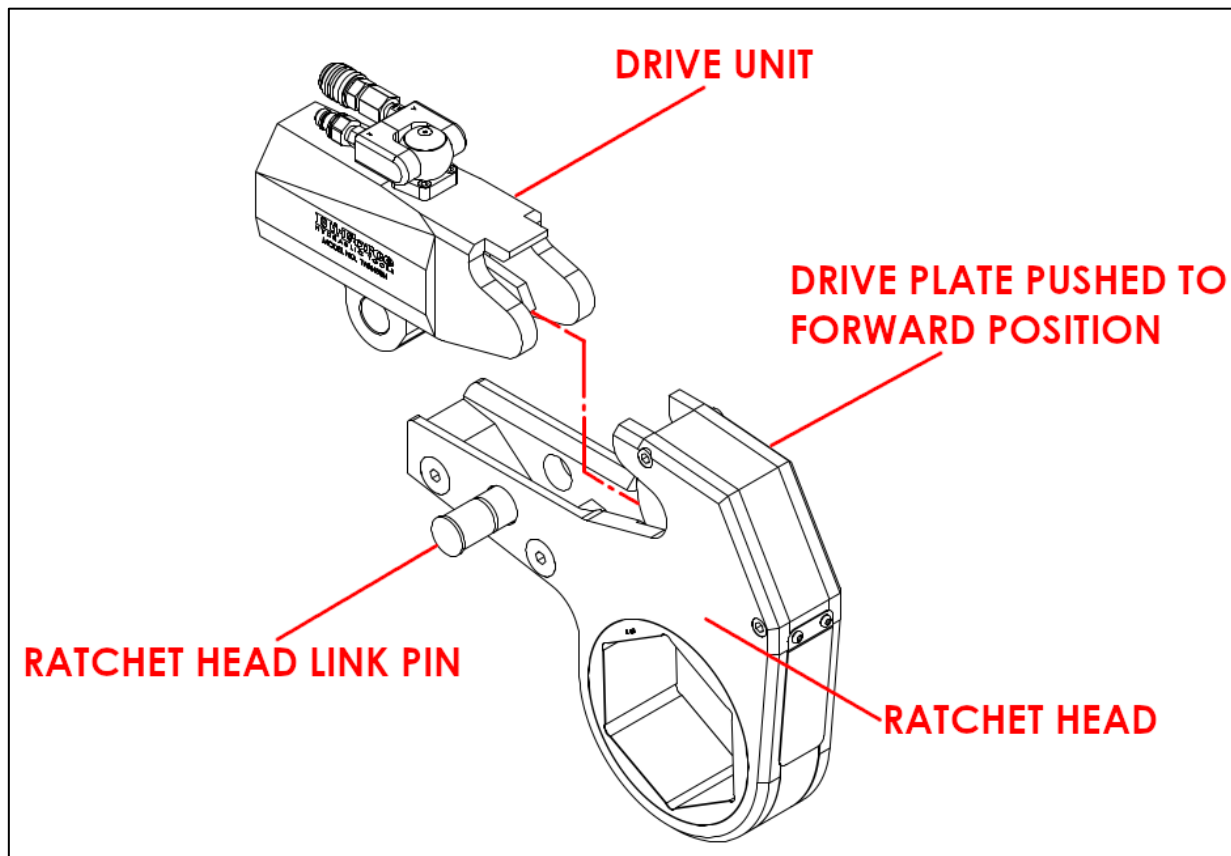

Figure 6.3: Attaching the Ratchet Head
- Mate the ratchet head with the drive unit as shown in figure 6.3.
1. Separate the drive unit from the ratchet head if they are joined. (See figure 6.3)